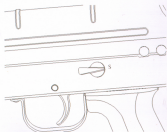
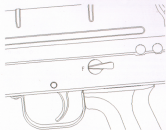

Fig. 3
Fig. 4
Warning! There are two positions, the fire position and the safe position of the safety selector. When the safety selector points to "S", the rifle is in the "safe" state (see Fig. 3). The rifle is in the firing state when the safety knob points to "F" (see Fig. 4). If the safety selector is not pointing to the "safe" position, pulling the trigger will fire the cartridge. Always be aware of the "Safe" and "Fire" positions of the safety selector to avoid serious casualties or property losses.
3.4.1.4. Keep the muzzle towards the safe direction and fingers off the trigger. Set the safety selector to "F" (fire) position (see Fig. 4).
3.4.2.8. At the end of firing, set the safety selector to the "S" (safe) position (see Fig. 3).
3.5.1. Set the safety selector to the "S" position (see Fig. 3).